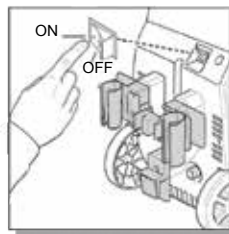

Fig. 15
- Make sure the “ON/OFF” switch is in the “OFF” position. The power switch has international symbols for ‘on’ and ‘off’: On (–) Off (O). (Fig. 15)